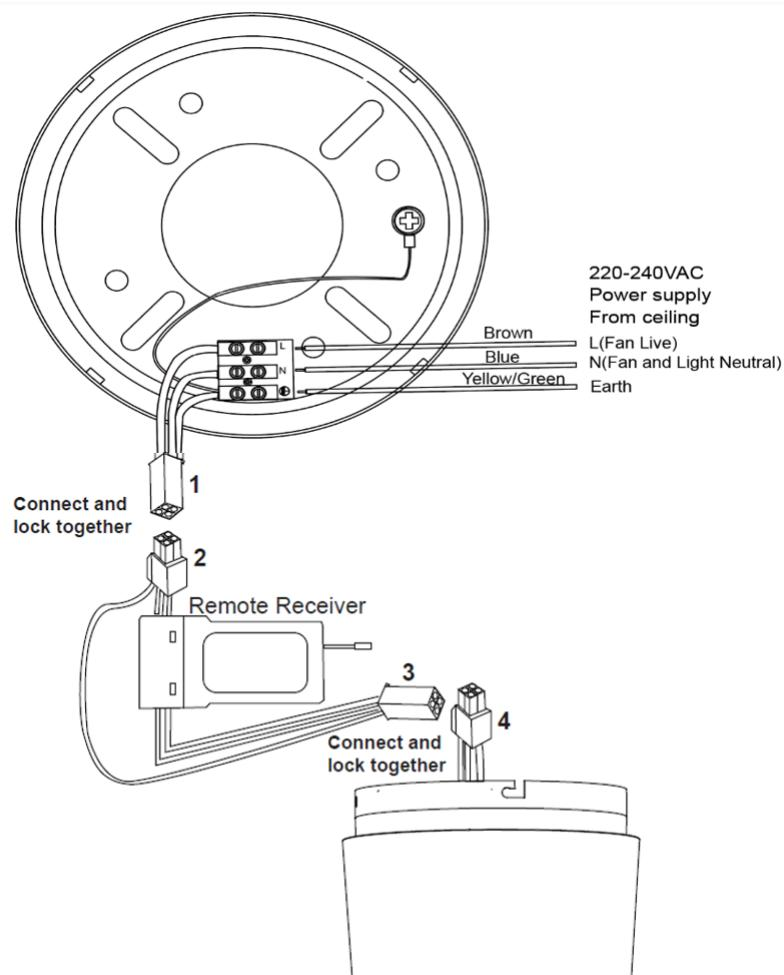

Fig. 5
MODELS WITH REMOTE CONTROLLER WIRING DIAGRAM (Fig.5):
- Make the wire connection L, N, and Earth to the mounting bracket terminal block as shown the diagram below in Fig. 5.
- Plug the quick connectors from the mounting bracket (1) and from the Remote receiver (2) together and ensure they lock.
- Plug the quick connectors from the remote receiver (3) and from the Fan (4) together and ensure they lock.